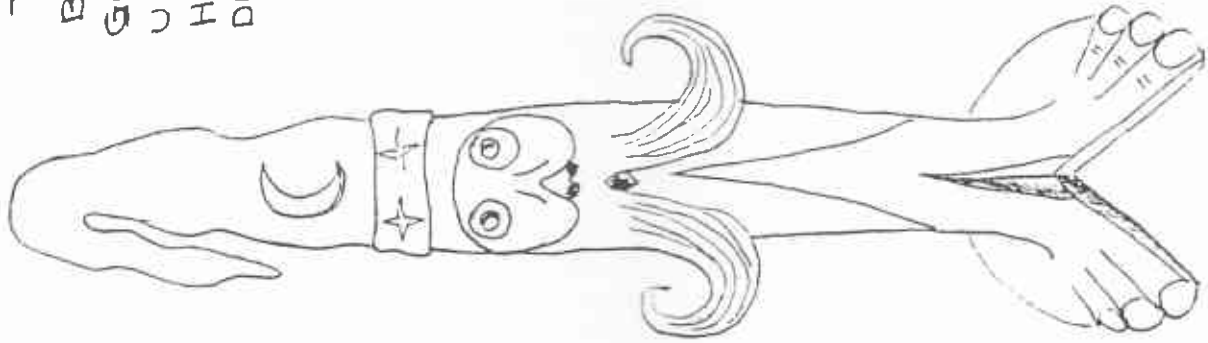

FIG. 8
(F) HOT CUT A 360° GROOVE AROUND BOTTOM OF CAP, JUST ABOVE THE FACE. THIS DETAIL REALLY SETS THE CAP OFF. FIG. 8